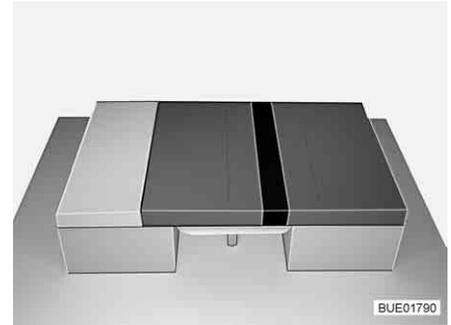

Fig. 96 After conversion
- Insert the additional cushion between the seat cushions (see Fig. 96).